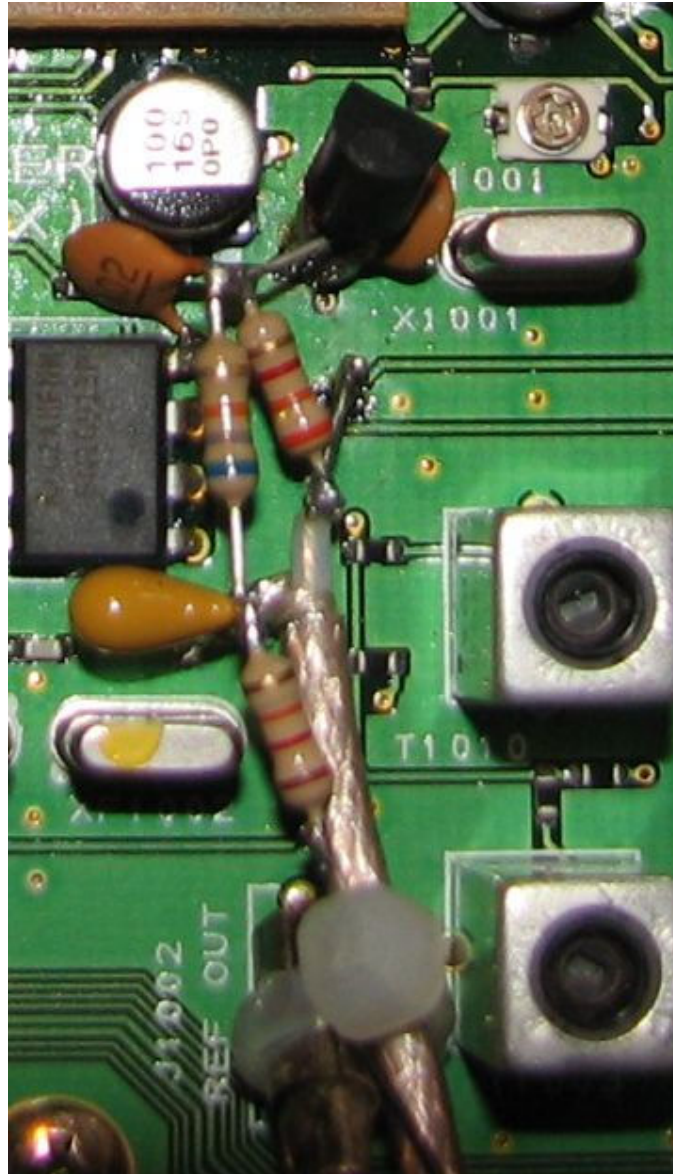

Figure 8 – Post Modification
8. Locate the audio amplifier IC in the right rear corner. See Figure 7. To get 13.8V, run a wire from pin 5 (furthest from back panel) through the wiring loom that runs around the right edge of the rig, coming out where the coax braid has just been soldered. The black wire can just be seen at the bottom of Figure 8 going through the cable tie to the 12K resistor.
10. See Figure 8. Cut one lead of each of the 1n capacitors to 5mm length, bend them and solder to ground – one to pin 4 of the adjacent IC and the other to the “factory mod” capacitor ground.
14. Solder the remaining components in as per Figure 8. Note that I used an SMD 1pF capacitor mounted vertically with a wire across to the end of the coax – a 1pF disc ceramic will work equally as well.